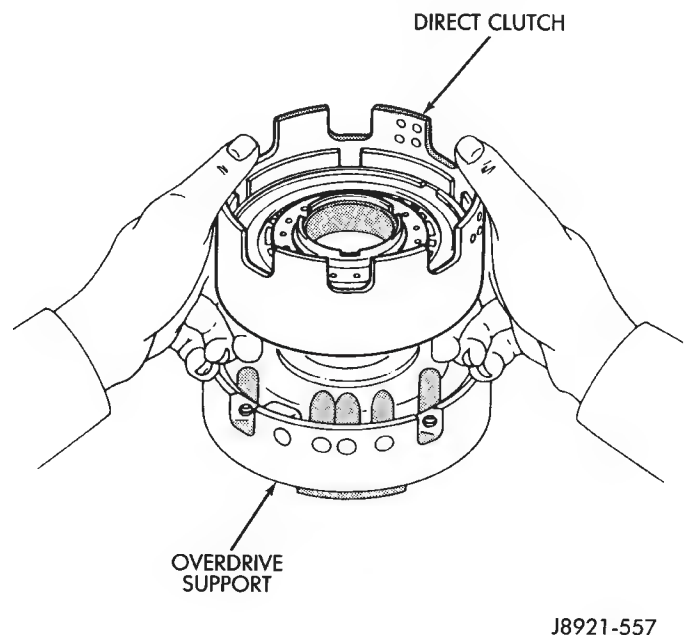

Fig. 3 Mount Direct Clutch On Overdrive Support
- (3) Check clutch piston stroke length as outlined in following steps.
- (4) Mount direct clutch on overdrive support assembly (Fig. 3).